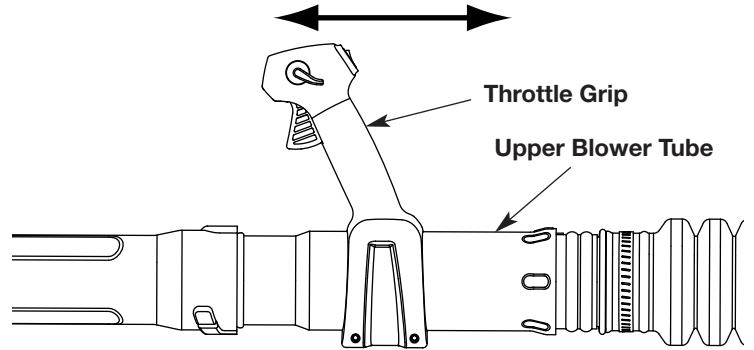

Fig. 7
1. Move the throttle grip to a location on the upper blower tube that is comfortable for you (Fig. 7).